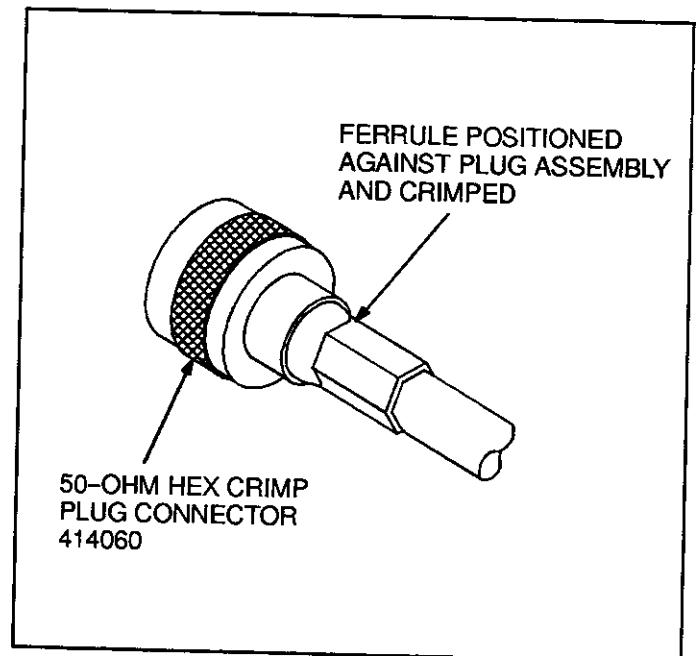

Fig. 7
4. Slide ferrule forward over braid and support sleeve; then crimp ferrule using the Pro-Crimper tool (fitted with the appropriate die assembly). See Figure 7.